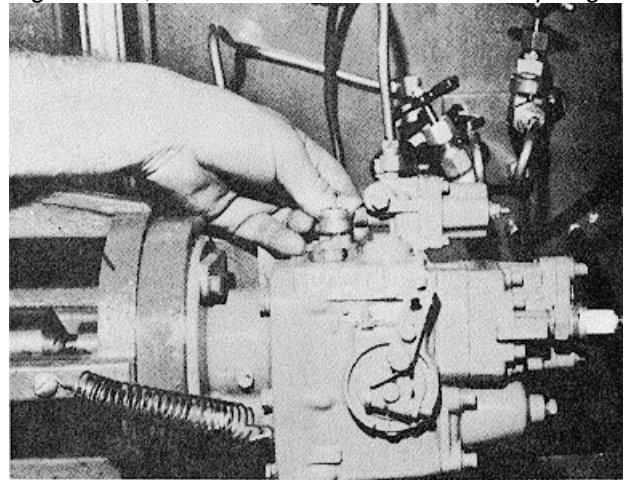

Fig. 5-1-12, F5171. Opening shut-down valve
3. Open completely the fuel pump shut-down valve, by turning knob clockwise (manual button, Fig. 5-1-12) and flow control valve. Open throttle, wide open position, (secure open with a spring) start and run pump at 500 rpm